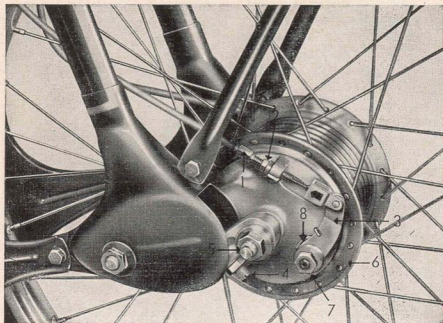

Figure 8 Adjustment of Front Wheel Brake
Procedure (see fig. 8):
6. Front and Rear Wheel Suspension (figs. 8 and 10)